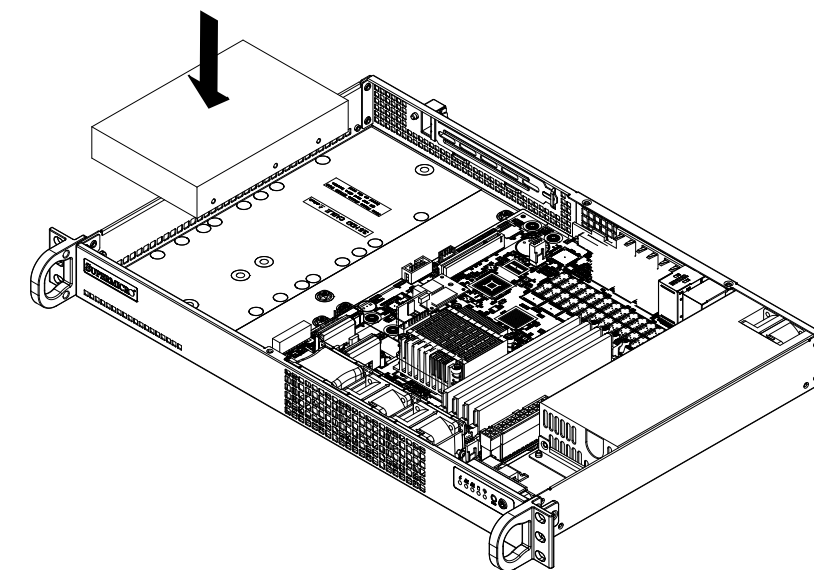

Figure 3-11. Installing a 3.5" Drive in the Chassis
1. Place the 3.5" hard drive in the chassis as illustrated in Figure 3-11.